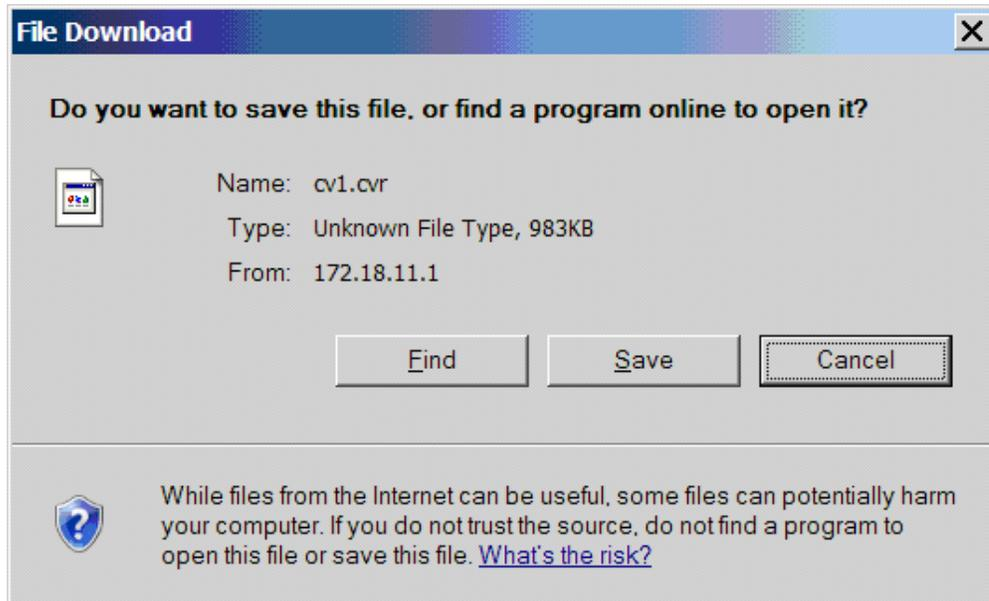

Figure 11. CVFDR Interface - File Download Save Pop-up Window
(17) A File Download pop-up will appear. Click on the **Save** button (Figure 11).